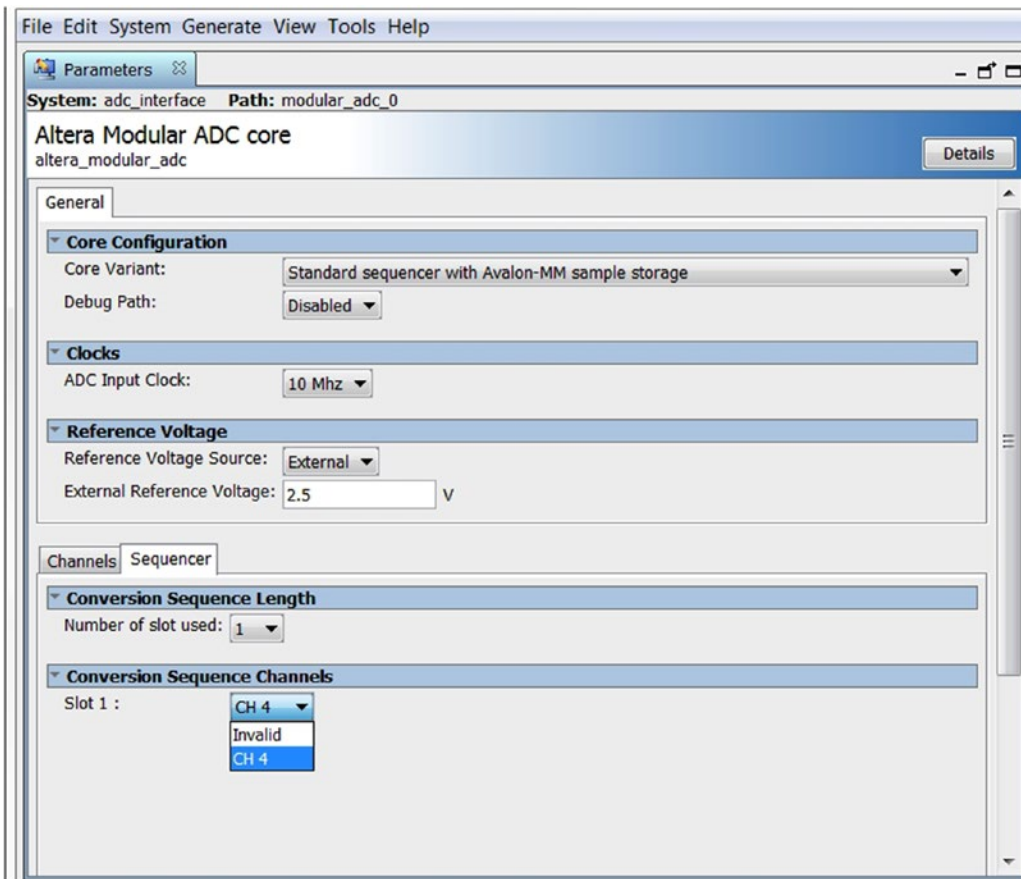

Figure 12-10. Altera Modular ADC core IP parameter editor—sequencer tab
Step 5: The sequencer tab settings default to no channel, so make sure you select **CH 4** where the number of slots used is **1**. Figure 12-10 shows the setting.